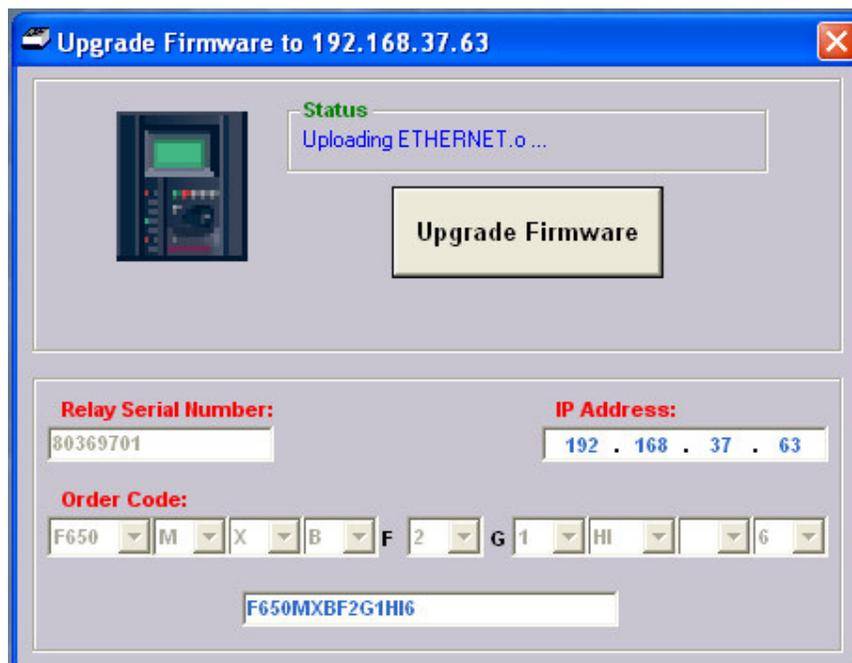

FIGURE 9-31: UPGRADE INITIATION
9.3.2.9 Now the new window will show the **Upgrade Firmware** button ready to be enabled (Figure 9-31). Press it to start upgrade.